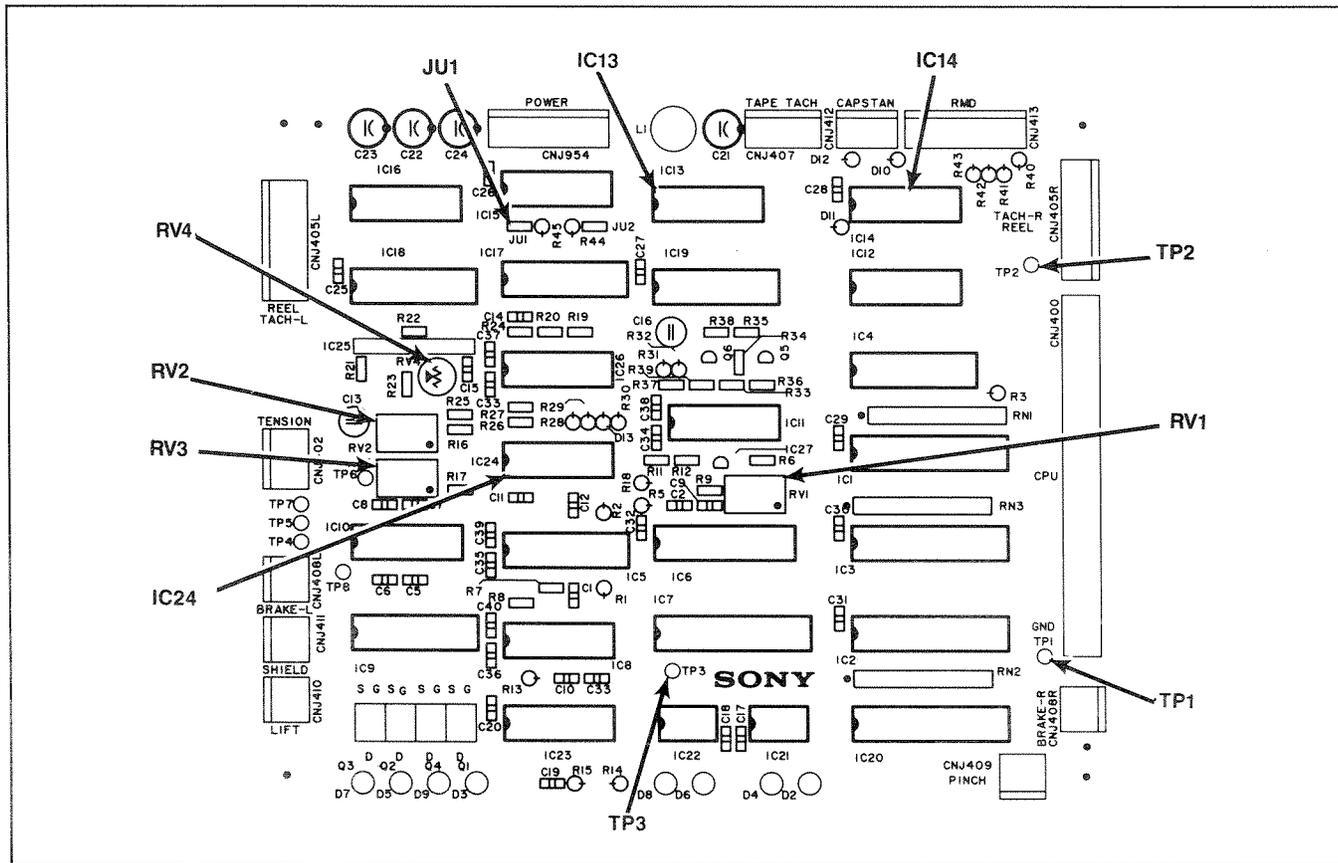

Figure 6-15. TIB PC Board
- STEP 4** Probe IC13 pin 8 with the positive lead of the oscilloscope. (See Figure 6-15.) This is the TTSA signal. Set the oscilloscope uncalibrated sweep so that one cycle of the waveform fills the entire screen.
STEP 6 Probe IC13 pin 10 with the positive lead of the oscilloscope. (See Figure 6-15.) This is the TTSB signal. Set the oscilloscope un-
- STEP 12** Probe IC13 pin 6 with the positive lead of the oscilloscope. (See Figure 6-15.) This is the RTSA signal of the take-up motor tachometer. Set the oscilloscope uncalibrated sweep so that one cycle of the waveform fills the entire screen.
- STEP 14** Probe IC13 pin 12 with the positive lead of the oscilloscope. (See Figure 6-15.) This is the RTSB signal of the take-up motor tachometer. Set the oscilloscope uncalibrated sweep so that one cycle of the waveform fills the entire screen.
STEP 3 Using a digital voltmeter, probe TPA on the HES board. Ground voltmeter at TP2 on TIB (signal ground). (See Figure 6-15.) Turn the power switch ON.